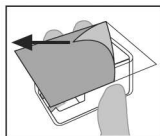

Figure 6-1
2. Grasp blister backing paper and peel away to expose the sterilized rigid plastic mount that holds the studs and clasps. **BE SURE NOT TO TOUCH THE STUDS** once the package is opened or the sterilization will be lost (Figures 6-1 & 6-2).